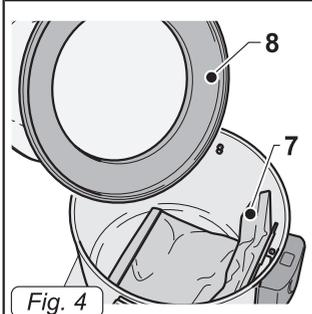
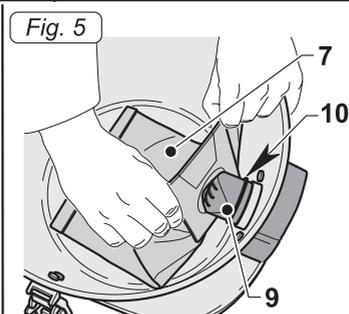

Fig. 4
Fig. 5
- Remove the polyester filter (8 Fig. 4).
- Check, if applicable, that inside the device to be set the paper bag (7 Fig. 4).
- If the paper bag (7 Fig. 4) is not there, install it, if necessary, acting as follows: Install the paper bag (7 Fig.5) in the nozzle (9 Fig. 5) until it passes the banding (10 Fig. 5)
- Reassemble the polyester filter (8 Fig. 4).
- Remove the polyester filter (8 Fig. 4) if present.
- Remove the paper bag (7 Fig. 4) if present.